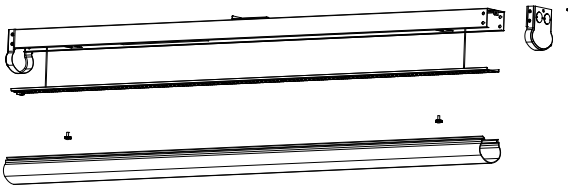

Figure 9
3. Loosen the thumb Screw, push out the heat sink. (Figure 9)